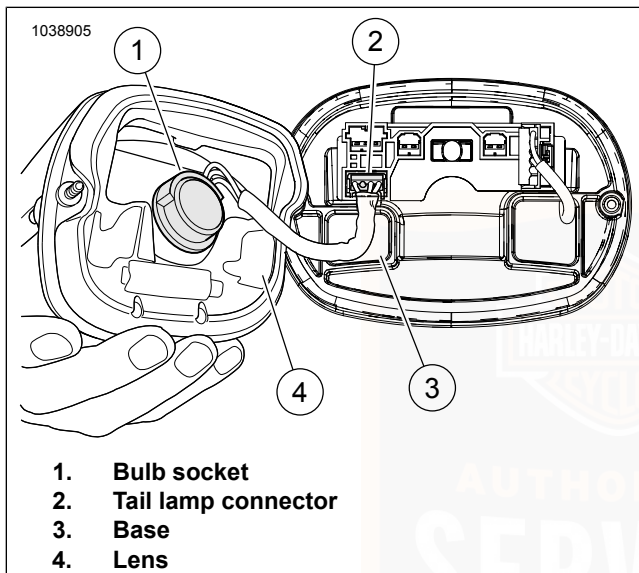

Figure 85. Incandescent Tail Lamp Assembly
2. See Figure 85. Disconnect tail lamp connector (3).
3. Rotate bulb socket (4) a quarter turn counterclockwise and remove from tail lamp assembly. Remove bulb.
2. See Figure 85. Insert socket (4) into tail lamp assembly. Rotate a quarter turn clockwise.
3. Attach tail lamp connector (3).